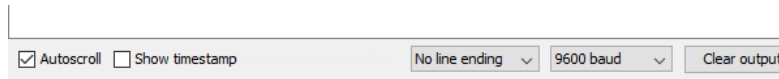

Figure 10.1: Communication Format in Serial Monitor
- **Line Ending:** *No line ending* (as shown in Figure 10.1).